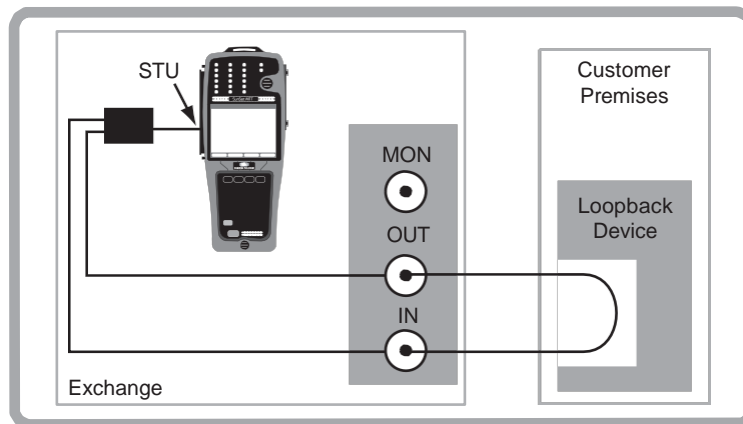

Figure 48 Accept a New E1 Span
4. Connect the test set to the circuit as shown in Figure 48 and press HISTORY to acknowledge any blinking LEDs. Verify that the PAT SYNC LED is green.
3. Connect the test set to the circuit as shown in Figure 48.